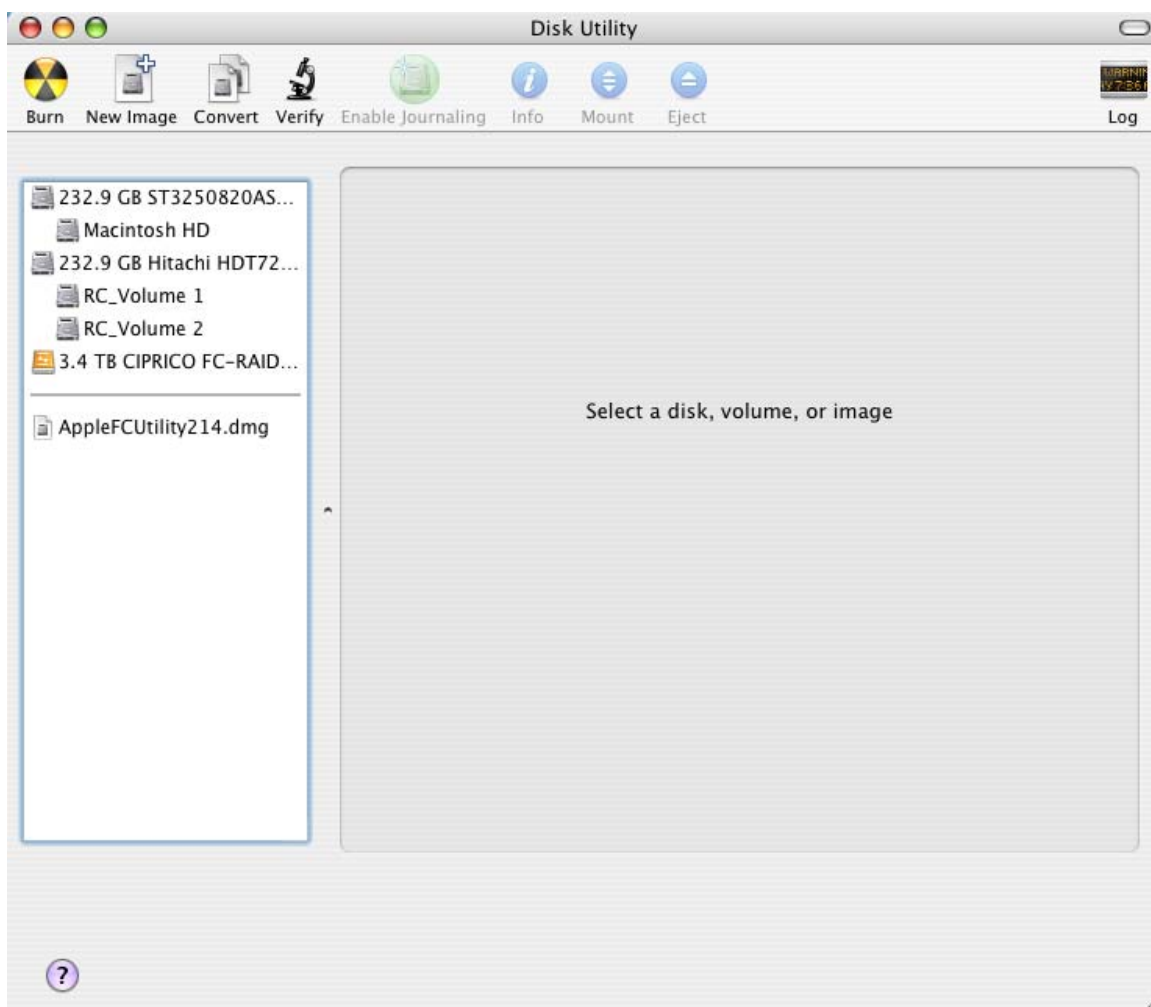

FIGURE 6-2. Apple Disk Utility Screen, Showing the 3.4 TB Ciprico FC-RAID Drive.
3. The *Apple Disk Utility* screen appears. In the example below, an icon of the “3.4 TB CIPRICO FC-RAID...” drive is shown in the left side. See Figure 6-2.